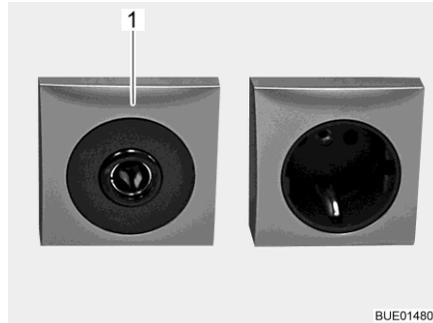

Fig. 184 12 V/10 A socket
- ▷ Only connect devices with a maximum of 10 A to the sockets (Fig. 184,1) of the 12 V power supply.